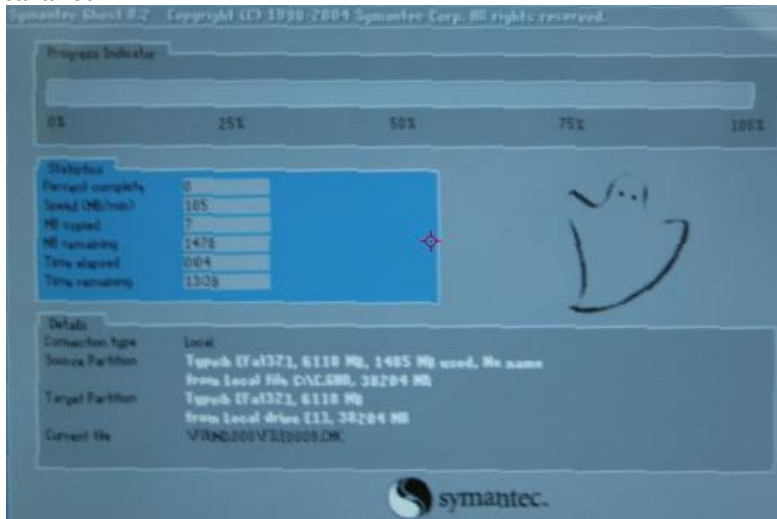

Fig. 2.9 System Recovery Interface
3) After the system recovery starts, the page as shown in Fig. 2.9 will appear, and the system recovery will start. The whole process will take about 10 minutes, and the analyzer shall be restarted after the recovery is completed.